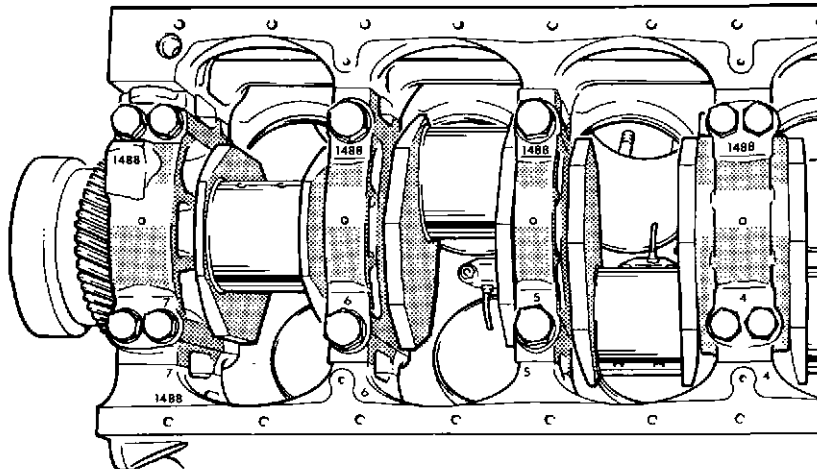

Fig. 3 Main bearing correlation
- 5 Fit the lower halves of the main bearing shells into the bearing caps and smear the running faces with clean engine oil. Using the Guide Studs, VT 11495 or VT 11496, as necessary, fit all except the centre main bearing cap assemblies. Ensure that the correlation numbers on each cap coincide with the numbers stamped in the crankcase, (fig. 3).